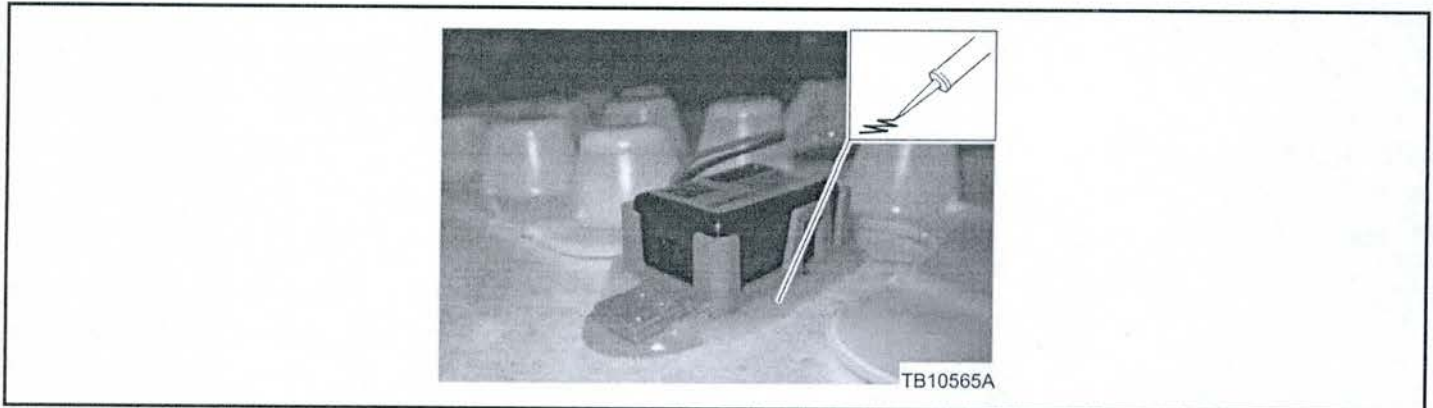

Figure 1 - Article 14-0151
- (1) Yes - clear the DTC and reconnect the microphone. Proceed to Step 8.
- (2) No - disconnect the wire harness from the microphone and reposition the wire harness to connect the harness to the correct microphone, so the fault codes match the microphone position. Clear the DTC. Proceed to Step 8.
8. Fully seal each microphone bezel to the headliner using 3M™ Super-Fast Adhesive. (Figure 1)